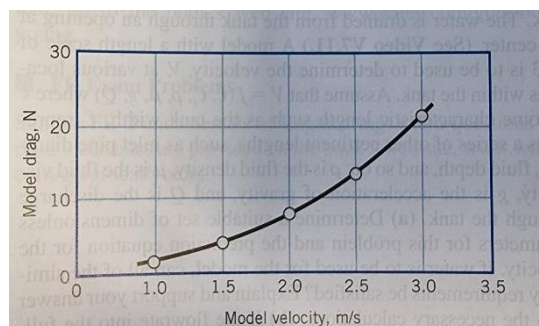

Figure 1.
3. The drag on a sphere moving in a fluid is known to be a function of the sphere diameter, velocity, and the fluid viscosity and density. Laboratory tests on a 10-cm diameter sphere were performed in a water tunnel and some model data are plotted in Fig. 1. For these tests the viscosity of the water was  $1 \times 10^{-3} \frac{\text{kg}}{\text{ms}}$  and the water density was  $998 \frac{\text{kg}}{\text{m}^3}$ . Estimate the drag on an 2.0 m diameter balloon moving in air at a velocity of 1.5 m/s. Assume the air to have a viscosity of  $1.8 \times 10^{-5} \frac{\text{kg}}{\text{ms}}$  and density of  $1.2 \frac{\text{kg}}{\text{m}^3}$ .